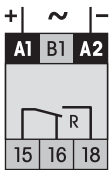

Fig.1 AC voltage endurance
**Connection diagram****Fig.1 AC voltage endurance****Fig. 2 DC load limit curve****Dimensions****Technical approvals, conformities**
Max. AC load AC-1 (Fig.1)	4 kVA
Rated operational current at 40 °C (Fig.1) 2 A